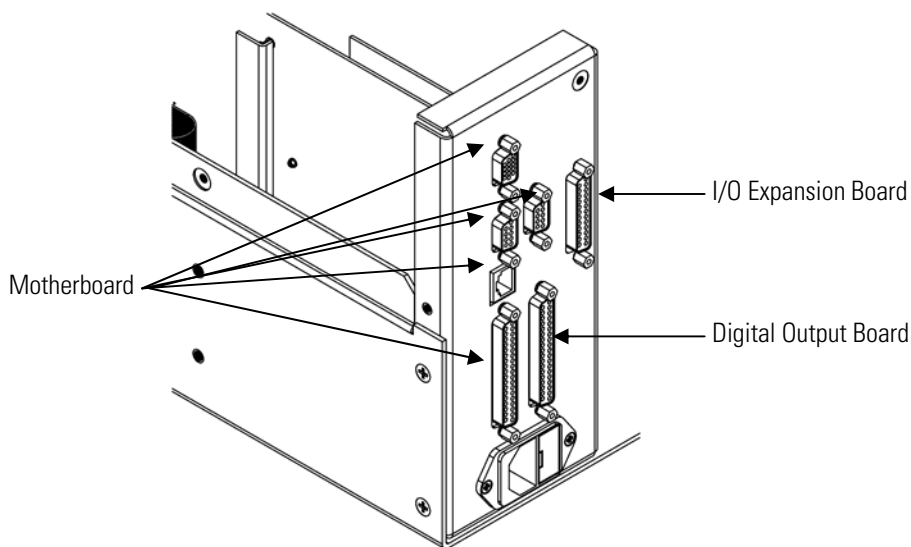

Figure 7-12. Rear Panel Board Connectors
3. Remove the two standoffs holding the I/O expansion board connector to the rear panel (Figure 7-12).